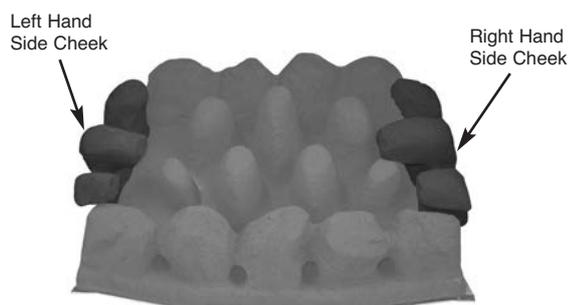

Fig. 23
4. Place the side cheeks into position, making sure they are positioned either side of the fuel bed and the overhang is at the front. The outside edge should be in contact with the radiant box ceramic liner. Ensure that the lower part of the side cheeks sit on the front coal and are in front of the rear coal (Fig. 23).